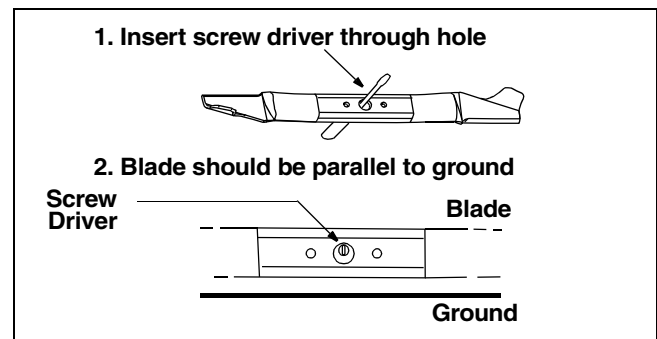

Figure 19
- The blade can be tested by balancing it on a round shaft screwdriver. See Figure 19. Remove metal from the heavy side until it balances evenly. It is recommended that the blade always be removed from the adapter for the best test of balance.